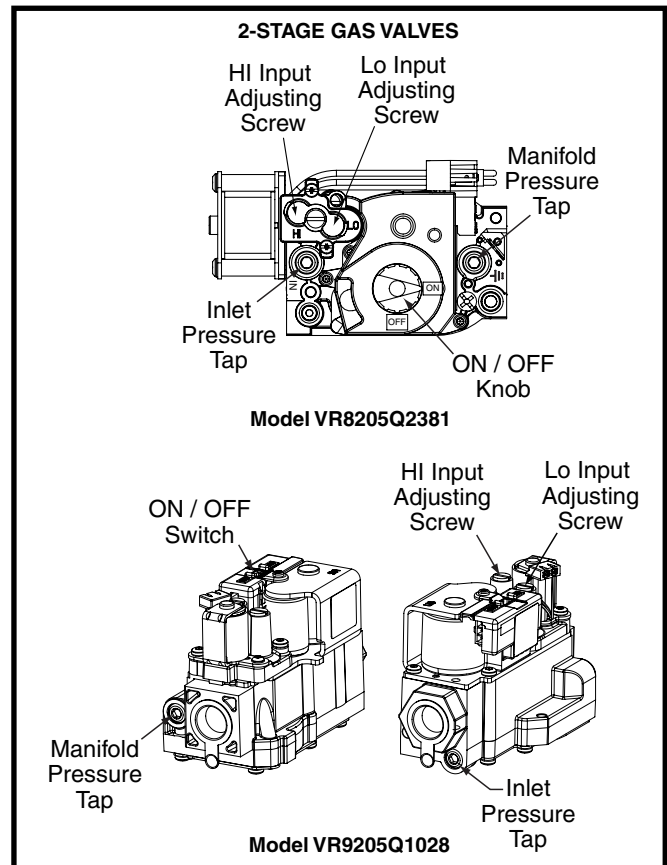

Figure 25. HI & LO Input Adjusting Screws
- c. Using an Allen wrench, turn the the LO Input Adjusting Screw on the LO side of the regulator to adjust the reduced input setting or turn the HI Input Adjusting Screw on the side of the regulator to adjust the full input setting. See Figure 25 \(page 24\). **NOTE:** Turning the adjusting screw clockwise increases the pressure and counterclockwise reduces the pressure.